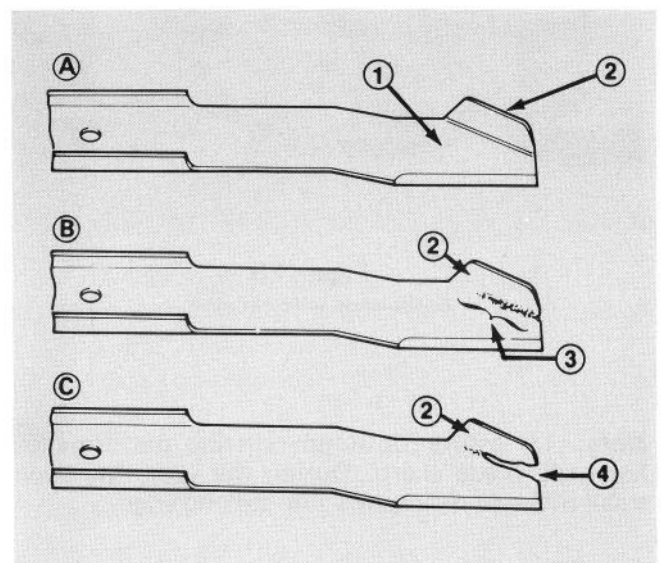

Figure 34
If the blade is allowed to wear, a slot will form between the sail and flat part of the blade (Fig. 34, C). Eventually, a piece of the blade may break off and be thrown from under the housing, possibly resulting in serious injury to yourself or bystander.
4. Examine cutting ends of blade carefully, especially where the flat and curved parts of the blade meet (Fig. 34, A). Since sand and abrasive material can wear away the metal that connects the flat and curved parts of the blade, check the blade before using the mower. If any wear is noticed (Fig. 34, B), replace the blade: refer to Sharpening or Replacing Cutter Blade, page 16.